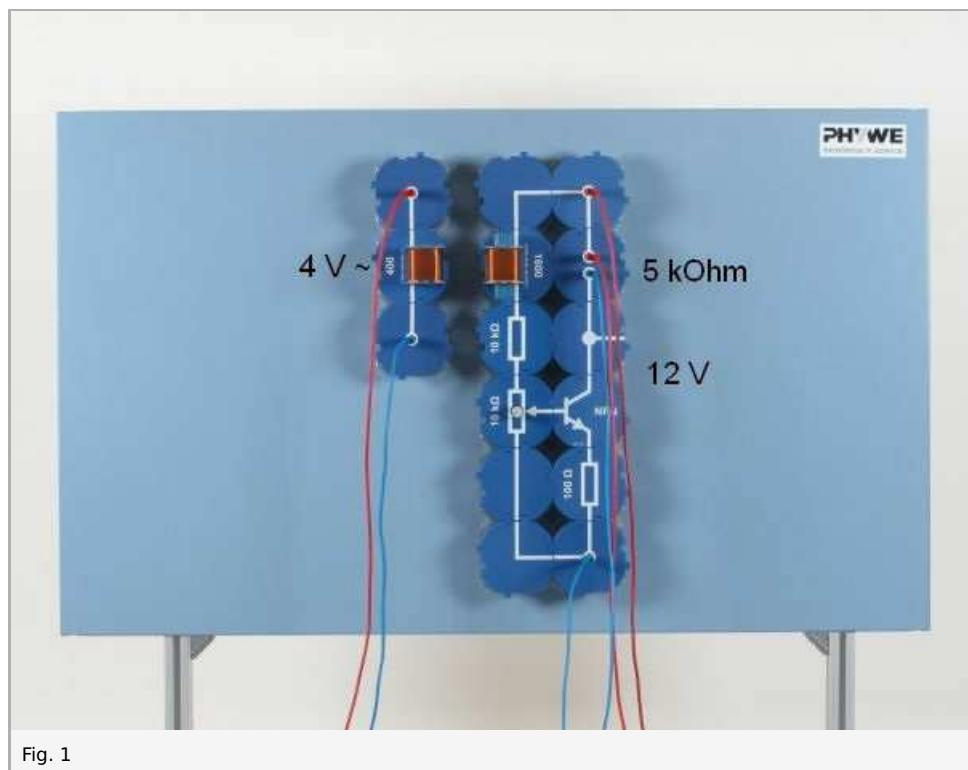

Fig. 1
- Set up the experiment as shown in Fig. 1; bring the 400 turn coil close beside the 1600 turn coil
- Adjust the potentiometer until a humming noise is heard from the loudspeaker; pay attention to the loudness of it (1)